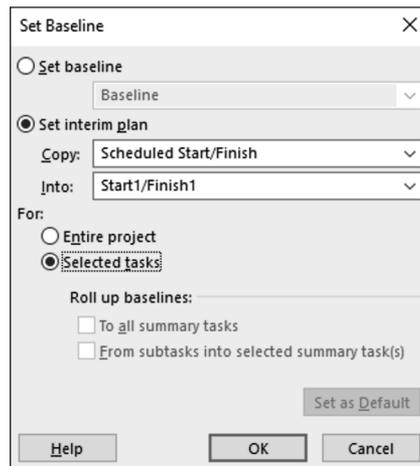

FIGURE 14-4: Copy settings from any saved baseline to an interim plan.
5. From the Into drop-down list box, select the fields in which you want to store the interim plan data, as shown in Figure 14-4.